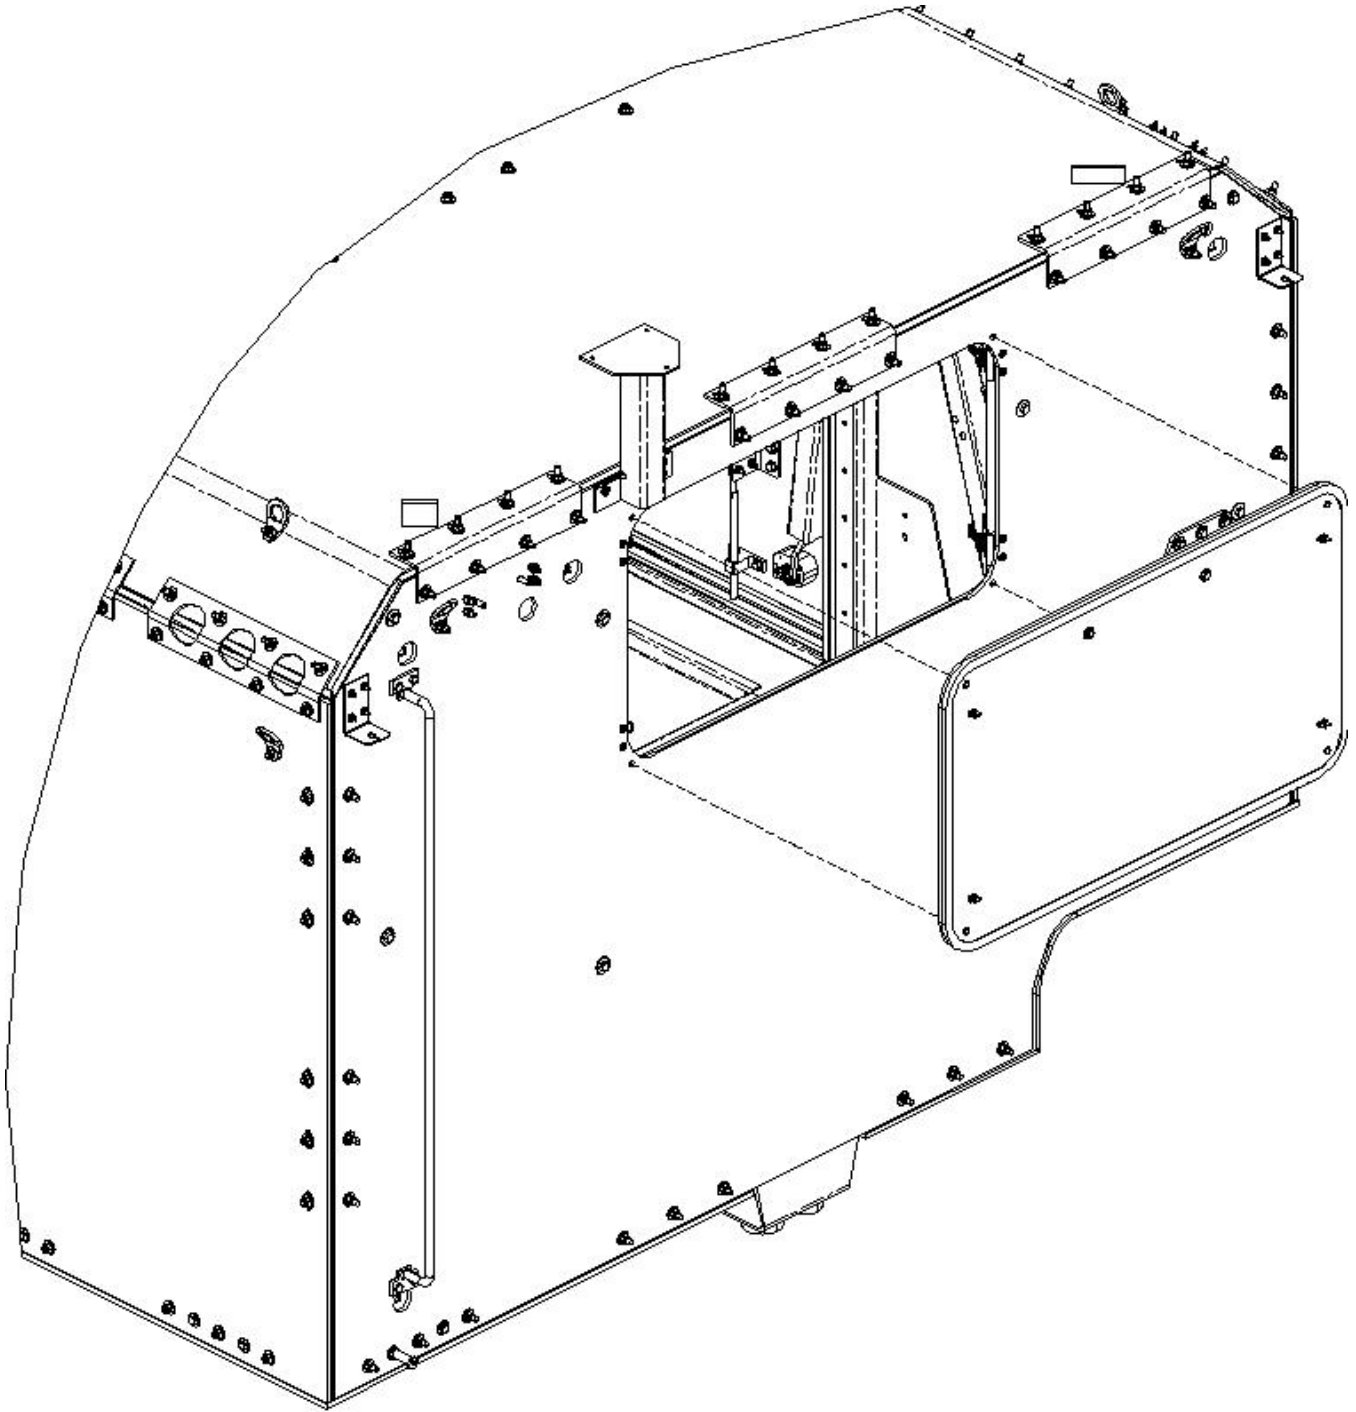

Figure 3-87. Escape Hatch Panel Assembly Installation.
4. Install escape hatch panel assembly as follows (see Figure 3-87):